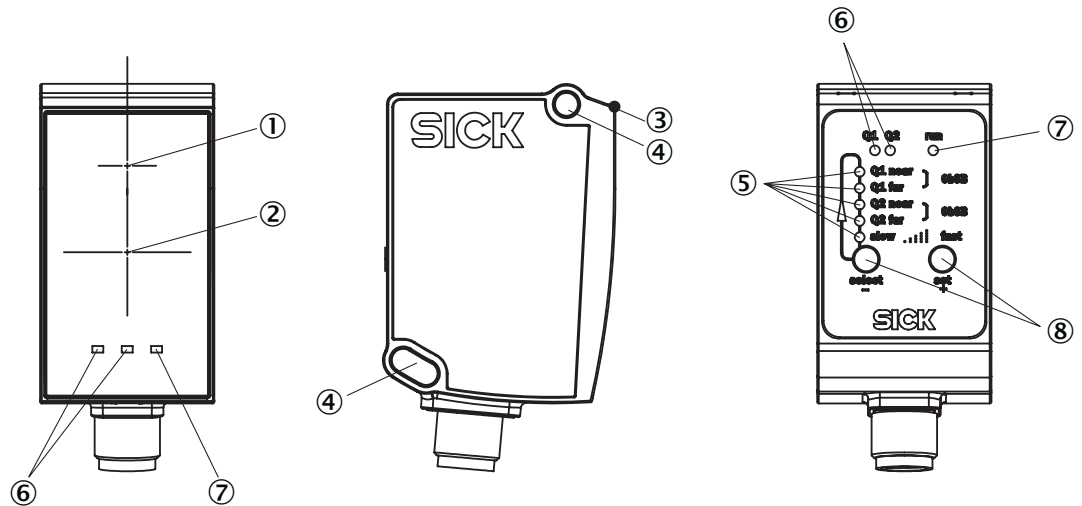

Fig. 5: "Dx35 distance sensor" structure and function
- Laser output aperture label, → See Fig. 5 on page 17
- Laser output aperture label, → see Fig. 5 on page 17